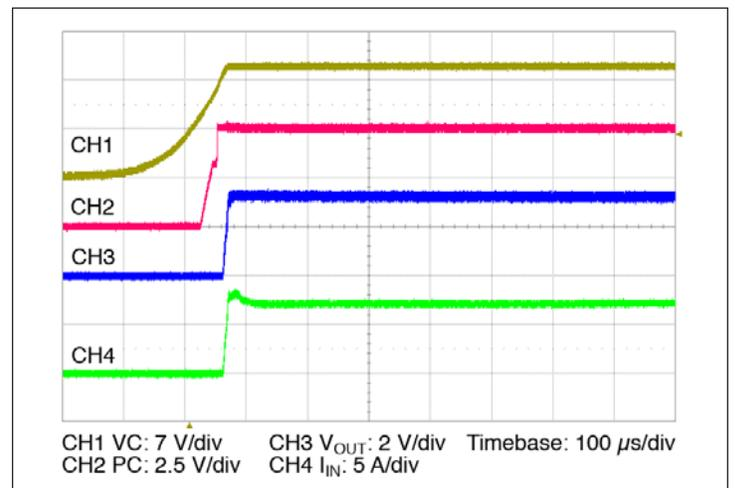

Figure 14 — Start up from application of  $V_C$ ;  $V_{IN}$  pre-applied  $C_{OUT} = 0 \mu\text{F}$
- Stand Alone Operation (VC applied after VIN): In this case the module output will begin to rise upon the application of the VC voltage (See Figure 14). The Adaptive Soft Start circuit (See Section 10) may vary the output rate of rise in order to limit the inrush current to its maximum level. When starting into high capacitance, or a short, the output current will be limited for a maximum of 900 µsec. After this period, the adaptive soft start circuit will time out and the module may shut down. No restart will be attempted until VC is re-applied, or PC is toggled. The maximum output capacitance is limited to 4000 µF in this mode of operation to ensure a successful start.